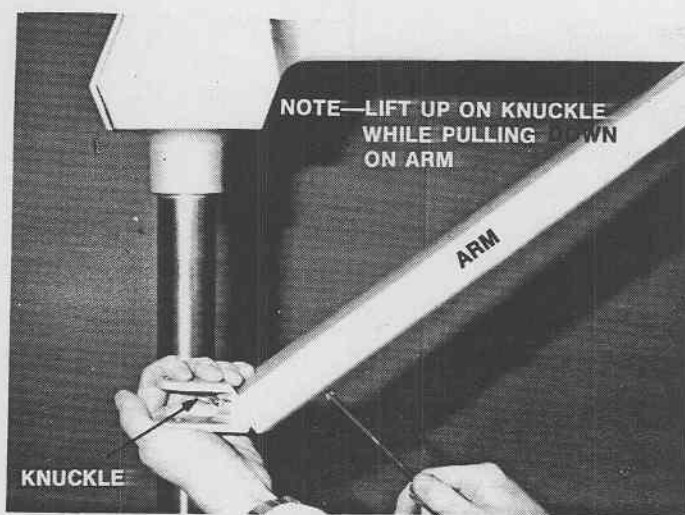

FIGURE 19—INSTALLING TWO FRONT SCREWS
- L. Replace arm cover, knuckle and pin. Hold **down** on arm to install two front screws and **up** to install two rear screws (Figures 19 and 20).